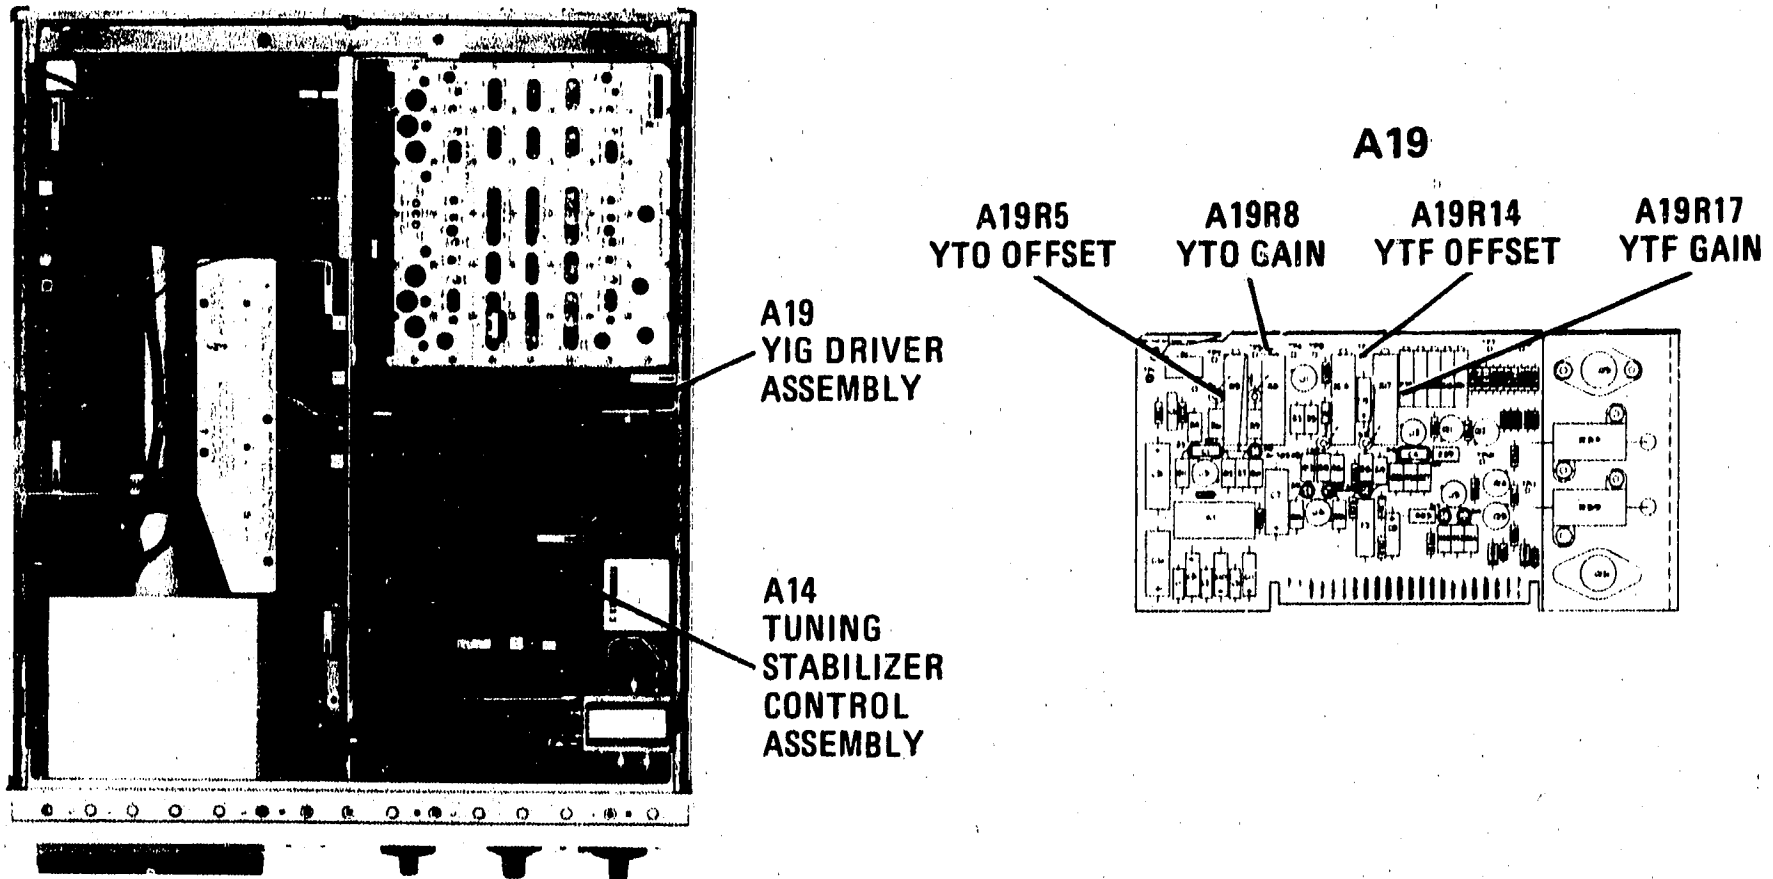

Figure 5-32. YIG Driver Adjustment Locations
6. Adjust A19R5 YTO OFFSET (Figure 5-32) for a frequency counter reading of  $2.050 \pm 0.0002$  GHz.